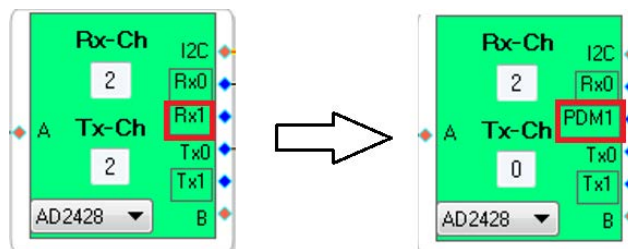

Figure 3. Changing AD2428W Pin Function from DRX1 to PDM1
5. The AD2428W DRX0/IO5 and DRX1/IO6 pins are multiplexed to support either I2S/TDM receive functionality (default) or PDM input (PDM0 and PDM1, respectively). Ensure that PDM functionality is enabled using the SigmaStudio GUI, as shown in Figure 3.